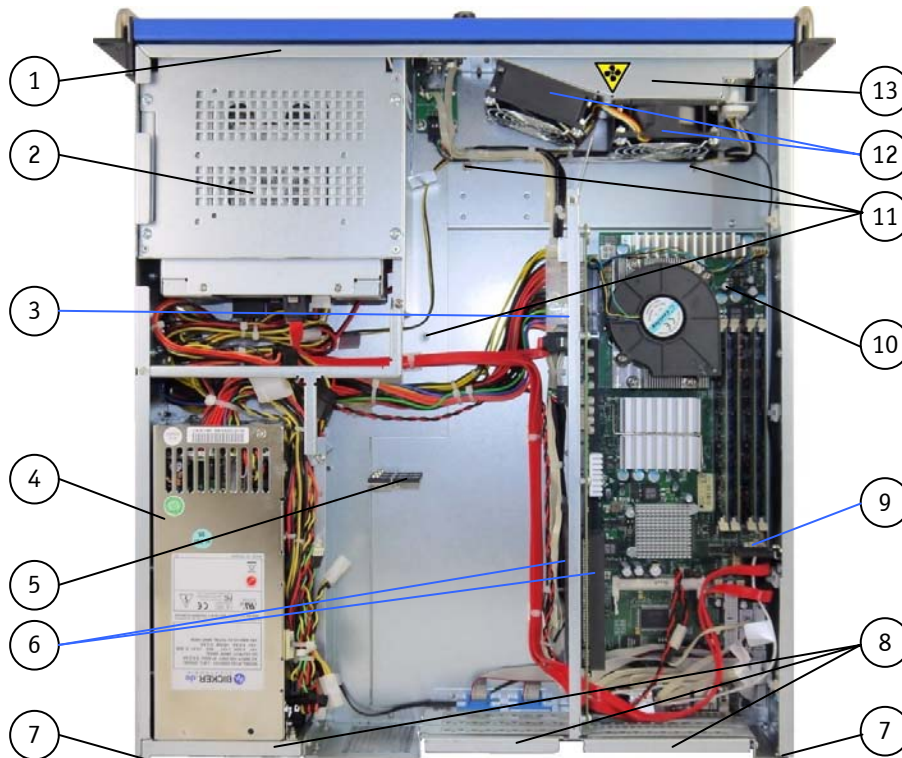
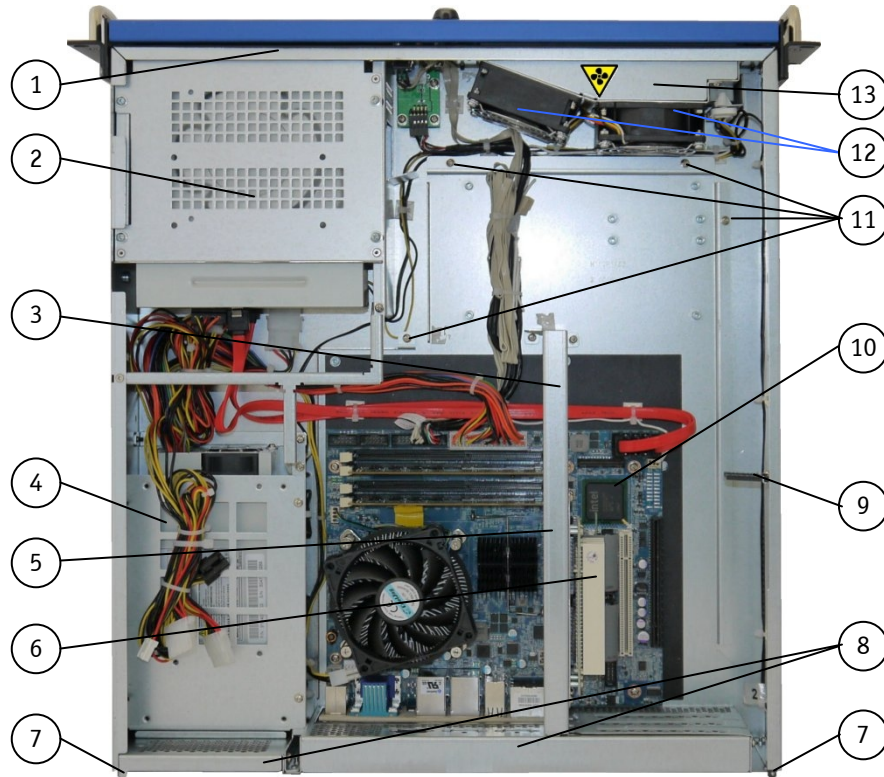
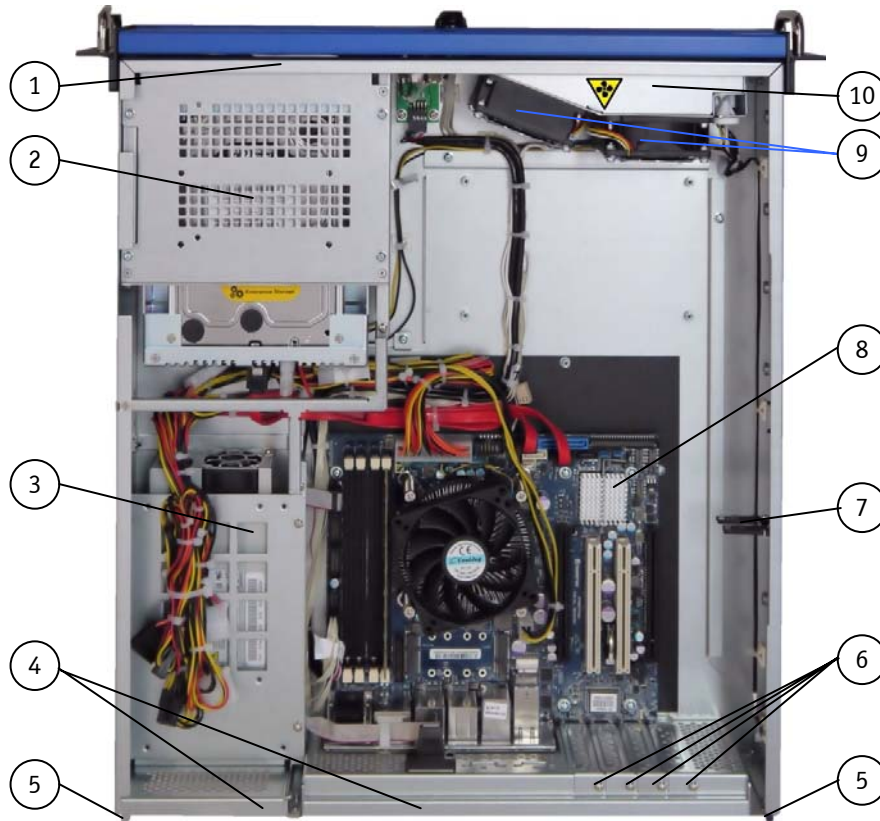
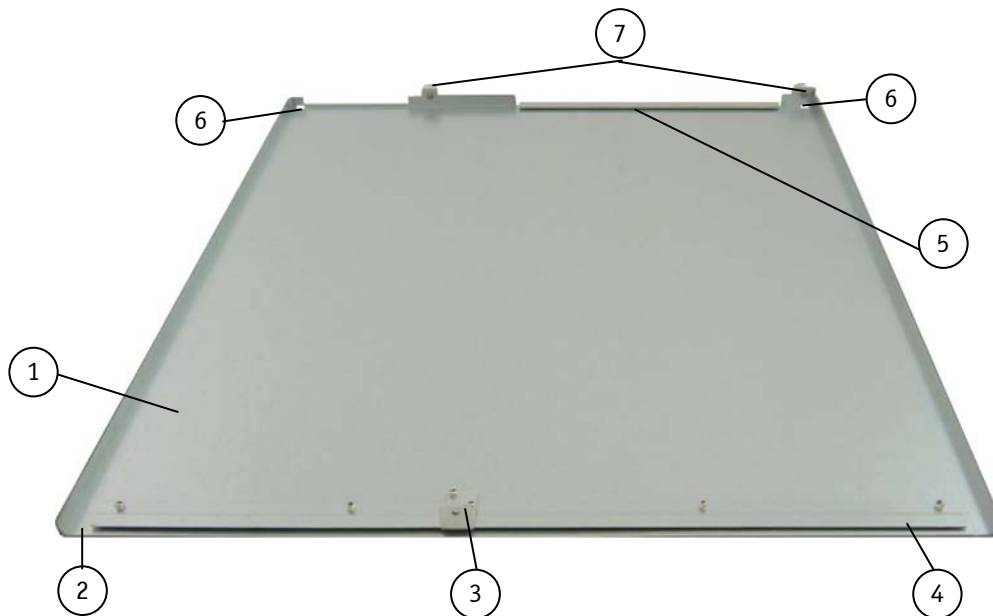

Fig. 21: Example of KISS 2U V2 Configuration with SBC (Single Board Computer)
Fig. 22: Example of KISS 2U V2 - Configuration with motherboard
Fig. 23: Example of KISS 2U V2 - Configuration with motherboard (shown as config. for low-profile expansion cards)
Fig. 24: Inside of the cover with fixing brackets
The cover will be fixed to the chassis using two fixing brackets at the front side of the cover (Fig. 24, pos.3 and pos. 4), two fixing brackets with captive knurled screws at the rear side of the cover (Fig. 24, pos.7) and the cover fastening screw (Fig. 9, pos. 6) at the front side of the KISS 2U V2 platform.
- ❑ At the front side: the fixing brackets (Fig. 24, pos. 4) are inserted properly into the corresponding retaining bracket of the chassis (Fig. 21, Fig. 22 and Fig. 23 pos. 1).
- ❑ At the rear side: the centring latches and the cover retaining plates (Fig. 21, Fig. 22, pos. 7 and 8, and Fig. 23 pos. 4 and 5) are properly inserted into the fixing bracket and centring slots of the cover (Fig. 24, pos.5 and 6).
The centering bracket (Fig. 24, pos. 3) and the front cover fastening screw Fig. 9, pos. 6) secure the cover on the front side. The fixing brackets with knurled screws (Fig. 24, pos. 7) secure the cover on the rear side.
3. Pull the cover out a little bit (Fig. 27) to release the cover centering and fixing brackets (Fig. 24, pos.3 and pos. 4) from the retaining plate of the chassis (see Fig. 21, Fig. 22, pos. 1) on the front side. At the same time the centering latches and the cover retaining plates (Fig. 21, Fig. 22, pos. 7 and 8) on the rear side will be removed from the fixing bracket and centering slots of the cover (Fig. 24, pos.5 and 6).
For KISS 2U V2 systems with SBC, unscrew the three screws (Fig. 21, pos. 11) and the four screws on the rear side (
6. For KISS 2U V2 systems with motherboard (not in configuration for low-profile cards), unscrew the four screws (Fig. 22, pos. 11) and the four screws on the rear side (Fig. 15, pos. 4). Retain the screws for later use.
2. Unscrew the fastening screws of the slot bracket or card slot bracket (Fig. 23, pos. 6). Retain the screws for later use.